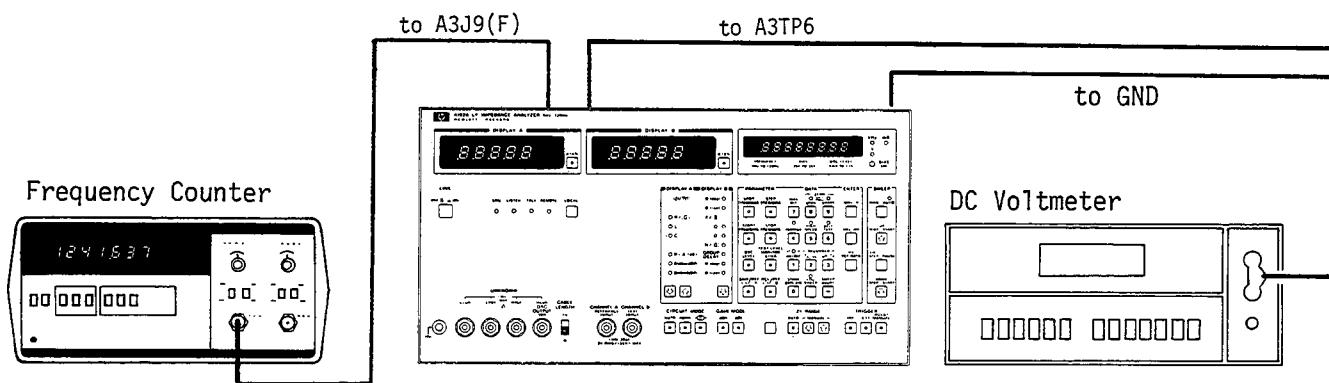

Figure 5-3. A3 40MHz VCXO Adjustment/40MHz-IF VCO Adjustment Setup.
- a. Disconnect the SMB cable from A3J9 (F).
- b. Connect A3J9 (F) to the input terminal of the 5314A with the BNC-to-SMB cable as shown in Figure 5-3.
- e. Connect the high lead to A3TP6 (VCO CTL) and the low lead to the chassis as shown in Figure 5-3.